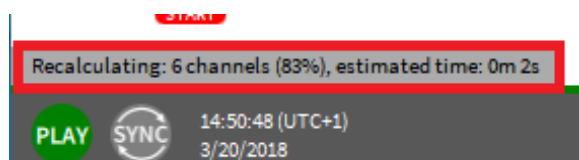

Fig. 7.165: Progress indicator for Offline Math calculations
- A *Progress indicator* will inform about the actual calculation progress (see Fig. 7.165) and contains information about the number of calculated channels, the calculation progress in percent and the remaining calculation time: